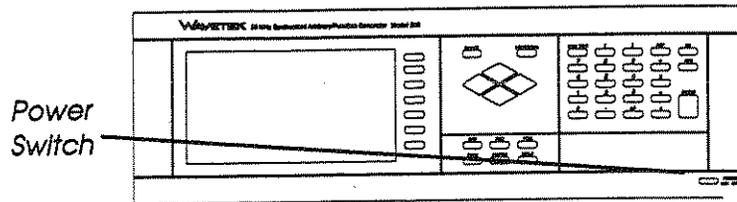

Figure 2-7. Power Switch
2. Press the "POWER" On/Off switch in to turn the unit on (figure 2-7).